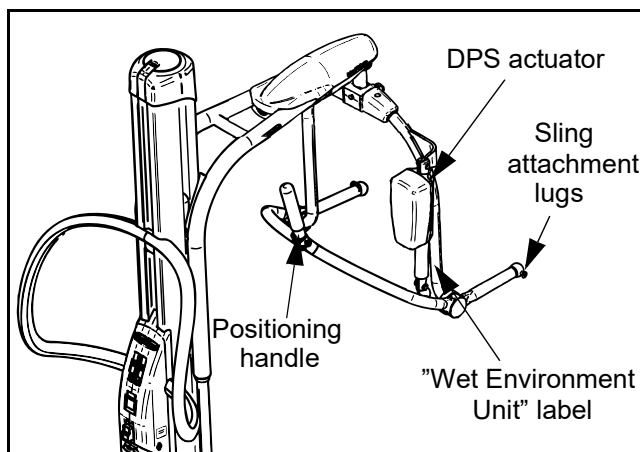

Fig. 36
If your lift has been supplied equipped with a powered DPS spreader bar (see Fig. 36), the use of this type of spreader bar—including sling positioning with patients, sling connection to the spreader bar, and patient handling—is the same as the manual DPS spreader bar described previously in these instructions.
**WARNING:** Before using your lift equipped with the powered DPS spreader bar, familiarise yourself with the various parts as illustrated in Fig. 36. Read and thoroughly understand these operating instructions in order to avoid mistakes that could result in injury.